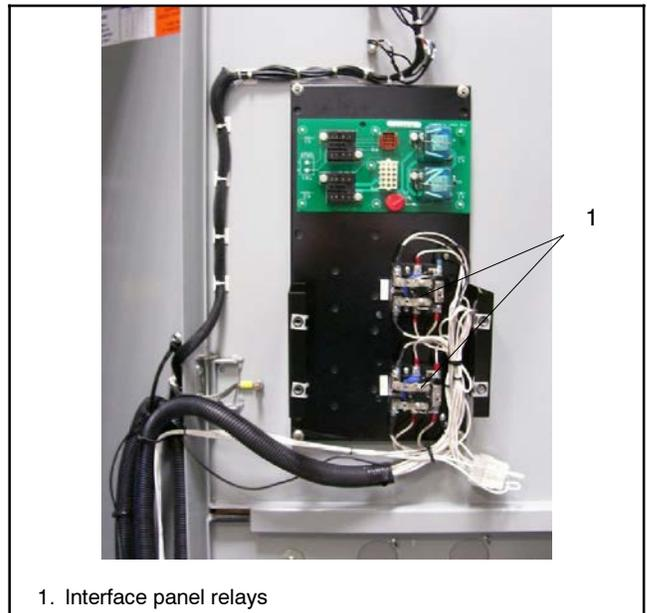
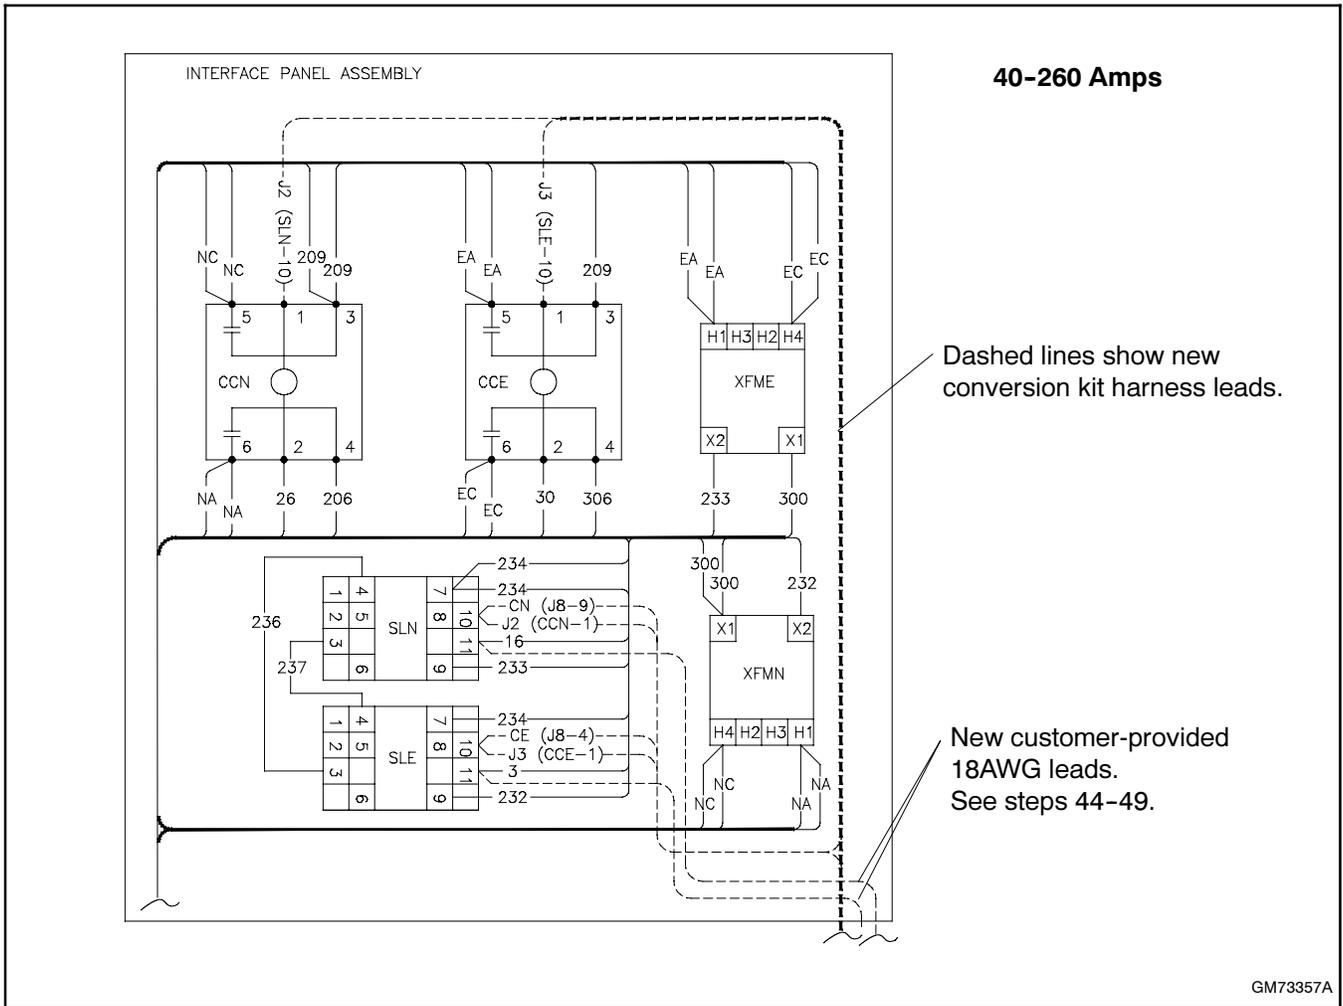
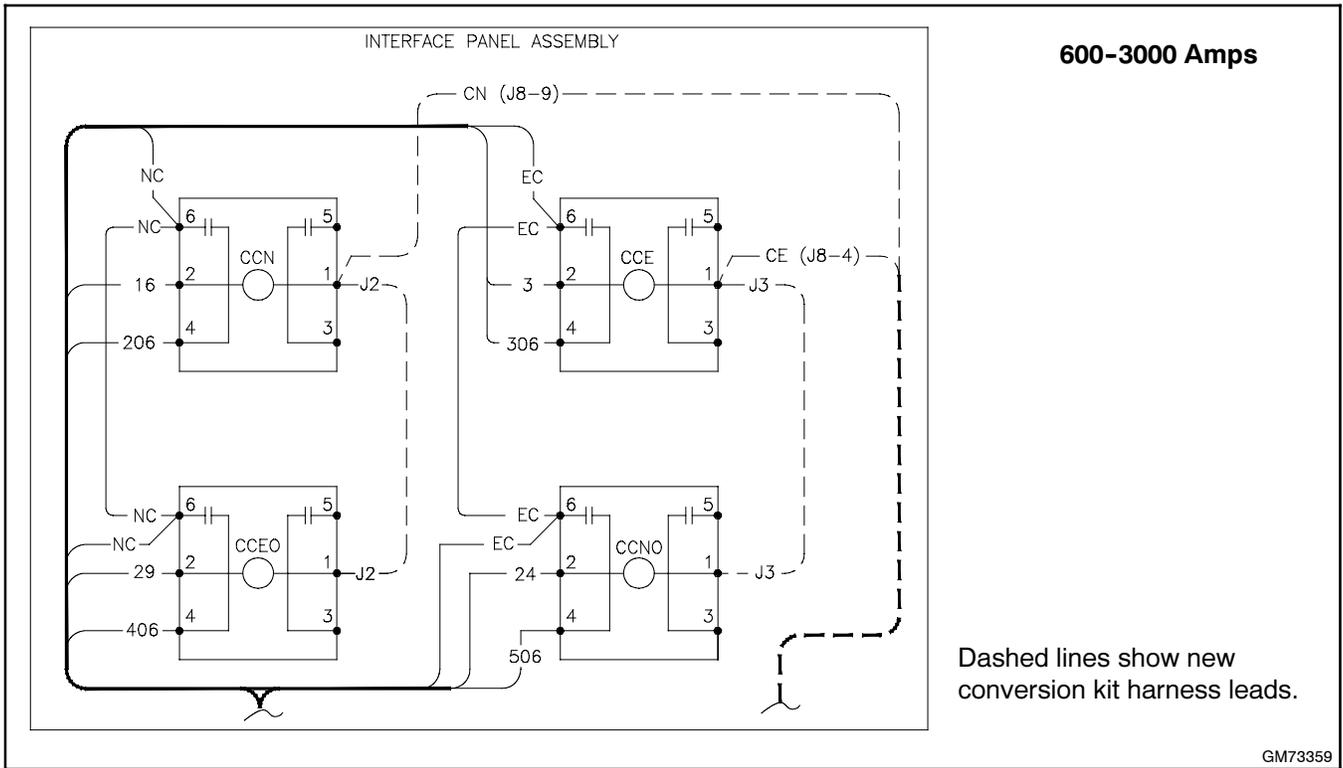
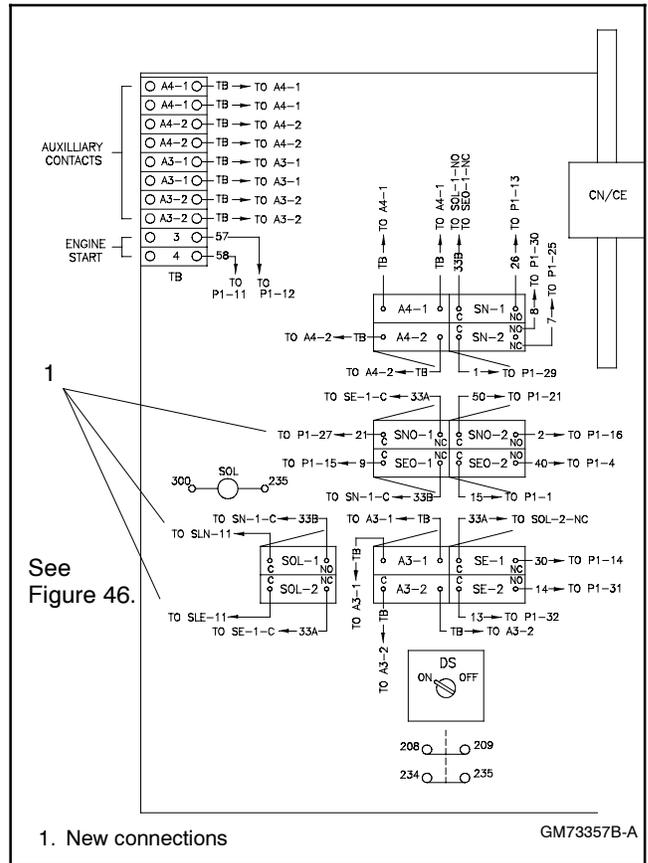

Figure 45 Interface Panel Relay Locations (two relays not shown)
Figure 46 Interface Panel Relay Connections, 40-260 Amps
Figure 48 Interface Panel Relay Connections, 600-3000 Amps
Figure 54 New Connections, 40-260 Amp Models
39. Connect leads CN, CE, J2, and J3 of the conversion kit harness GM77827 to the interface panel assembly relays. See Figure 45 and refer to the partial wiring diagrams shown in Figure 46 through Figure 48.
46. Add a lead (customer-provided 18 AWG lead) from SOL-1-C to relay SLN-11 on the interface panel. See Figure 46 and Figure 54.
48. Reroute lead 21 to SNO-1 terminal C. See Figure 54. (Re-use or disconnect and discard the existing lead 21 connected to SNO-1-C.)
49. Add a lead (customer-provided 18 AWG lead) from SOL-2 terminal C to relay SLE-11 on the interface panel. See Figure 46 and Figure 54.